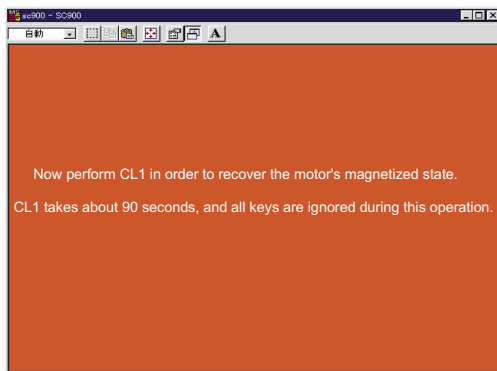

Figure 5-22. Recovery from Unmagnetized Status
*Note Step 1: The initial screen (same as in Figure 5-20) appears. (The top screen in Figure 5-22)*
*Note Step 2: If no action is taken for 3 minutes or more, the next screen appears. (The middle screen in Figure 5-22)*
*Note Step 3: As the program prompts, press the Enter key. (The middle screen in Figure 5-22)*
*Note Step 4: The next screen (The bottom screen in Figure 5-22) appears and the printer automatically performs the cleaning (level: CL1).*